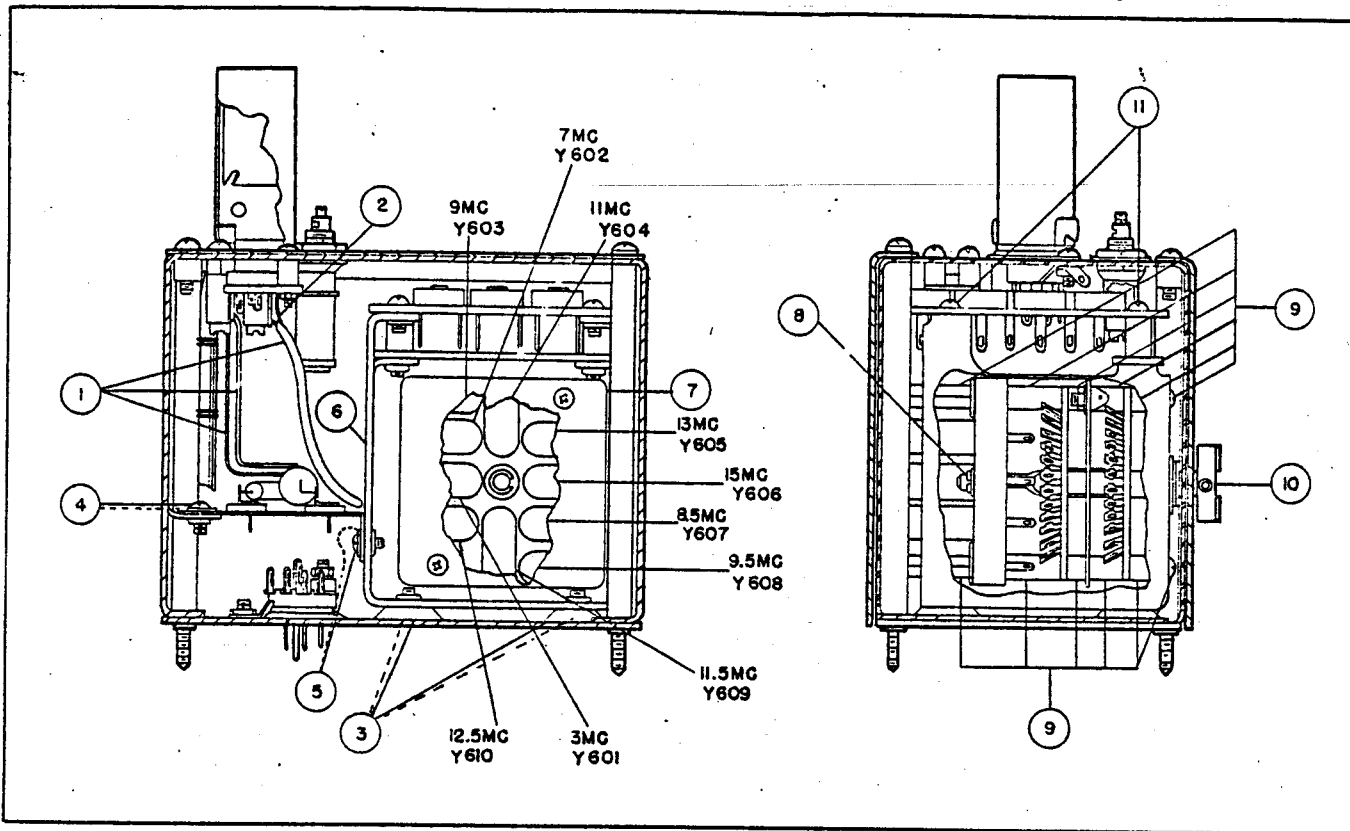

Figure 3-15. R-F Oscillator Assembly, Front and Side View
**3-28. REMOVAL OF SWITCHES AND TRIMMER CAPACITORS.** Refer to figure 3-15.
- a. Unsolder three switch leads (item 1). Identify for replacement.
- b. Remove grounded coax lead (item 2) by removing screw in V601 tube socket.
- c. Remove four screws from the bottom of the chassis (item 3).
- c. Replace the switches and terminal boards in the small chassis (item 6) in the same position as removed.
- d. Replace four screws and two spacers (item 11).
- e. Replace switch shaft (item 10) as illustrated, in figure 3-15, being careful not to move any of the switch positions.
- f. Replace screws, spacers, and posts (item 9).
- g. Replace retaining ring and washer (item 8).
- h. Replace crystals in the correct sockets. Refer to figure 3-15.